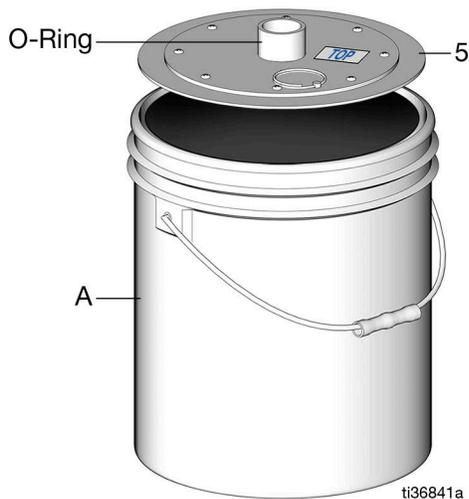

FIG. 16
1. Disconnect the pump (7) from the main power source. Do not disconnect grounding.
3. Loosen the thumb screws (4).
4. Remove the drum cover (1), pump (7) assembly and follower plate (5) from the empty bucket and set aside.
5. Remove the empty bucket (A) and discard according to local regulations.
6. Remove and discard the cover from the new grease bucket (A) (user supplied).
7. Place the follower plate (5), top side up, into the grease and firmly press on it to remove all air pockets (FIG. 16).